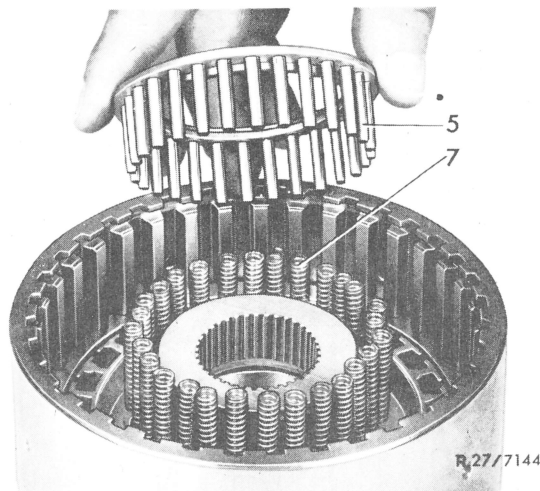

Fig. 4
4 Carefully release press, remove spring retainer (5) and compression springs (7) (Fig. 4).
11 Insert compression springs (7) into piston. Position spring retainer (5) in such a manner that each spring is centered in one prominence of the spring retainer (Fig. 4). Do not confuse springs with those of clutch K 2.